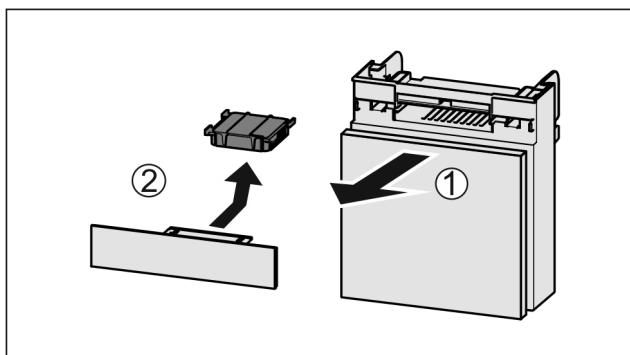

Fig. 131
- Pull out the compartment Fig. 131 (1).
- Remove the carbon filter Fig. 131 (2).